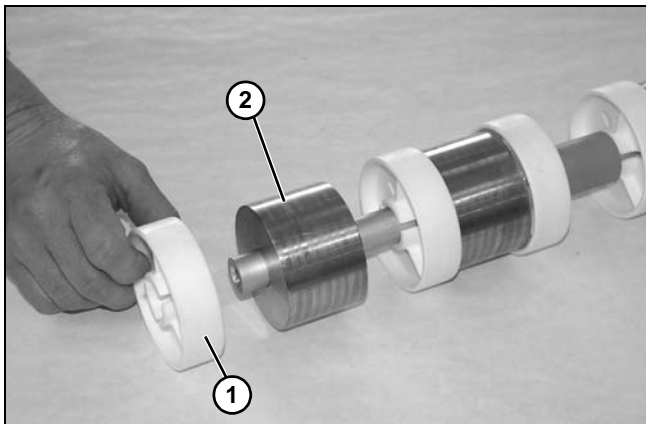

Figure 107
7. Remove idler puck (**Figure 107, item 1**) and weight (**Figure 107, item 2**) off of shaft, as needed, from belt.